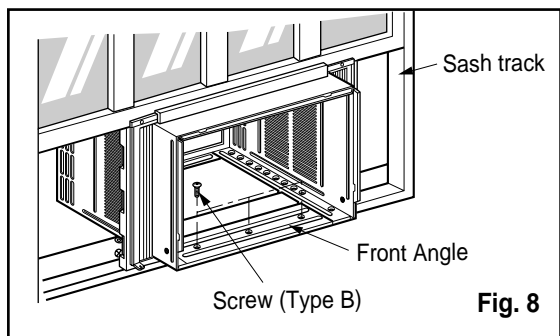

Fig. 8
**NOTE:** 1. Do not pull the window sash down so tightly that the movement of Frame curtain is restricted. Attach the cabinet to the window stool by driving the screws (Type B) through the cabinet into window stool. (See Fig. 8)